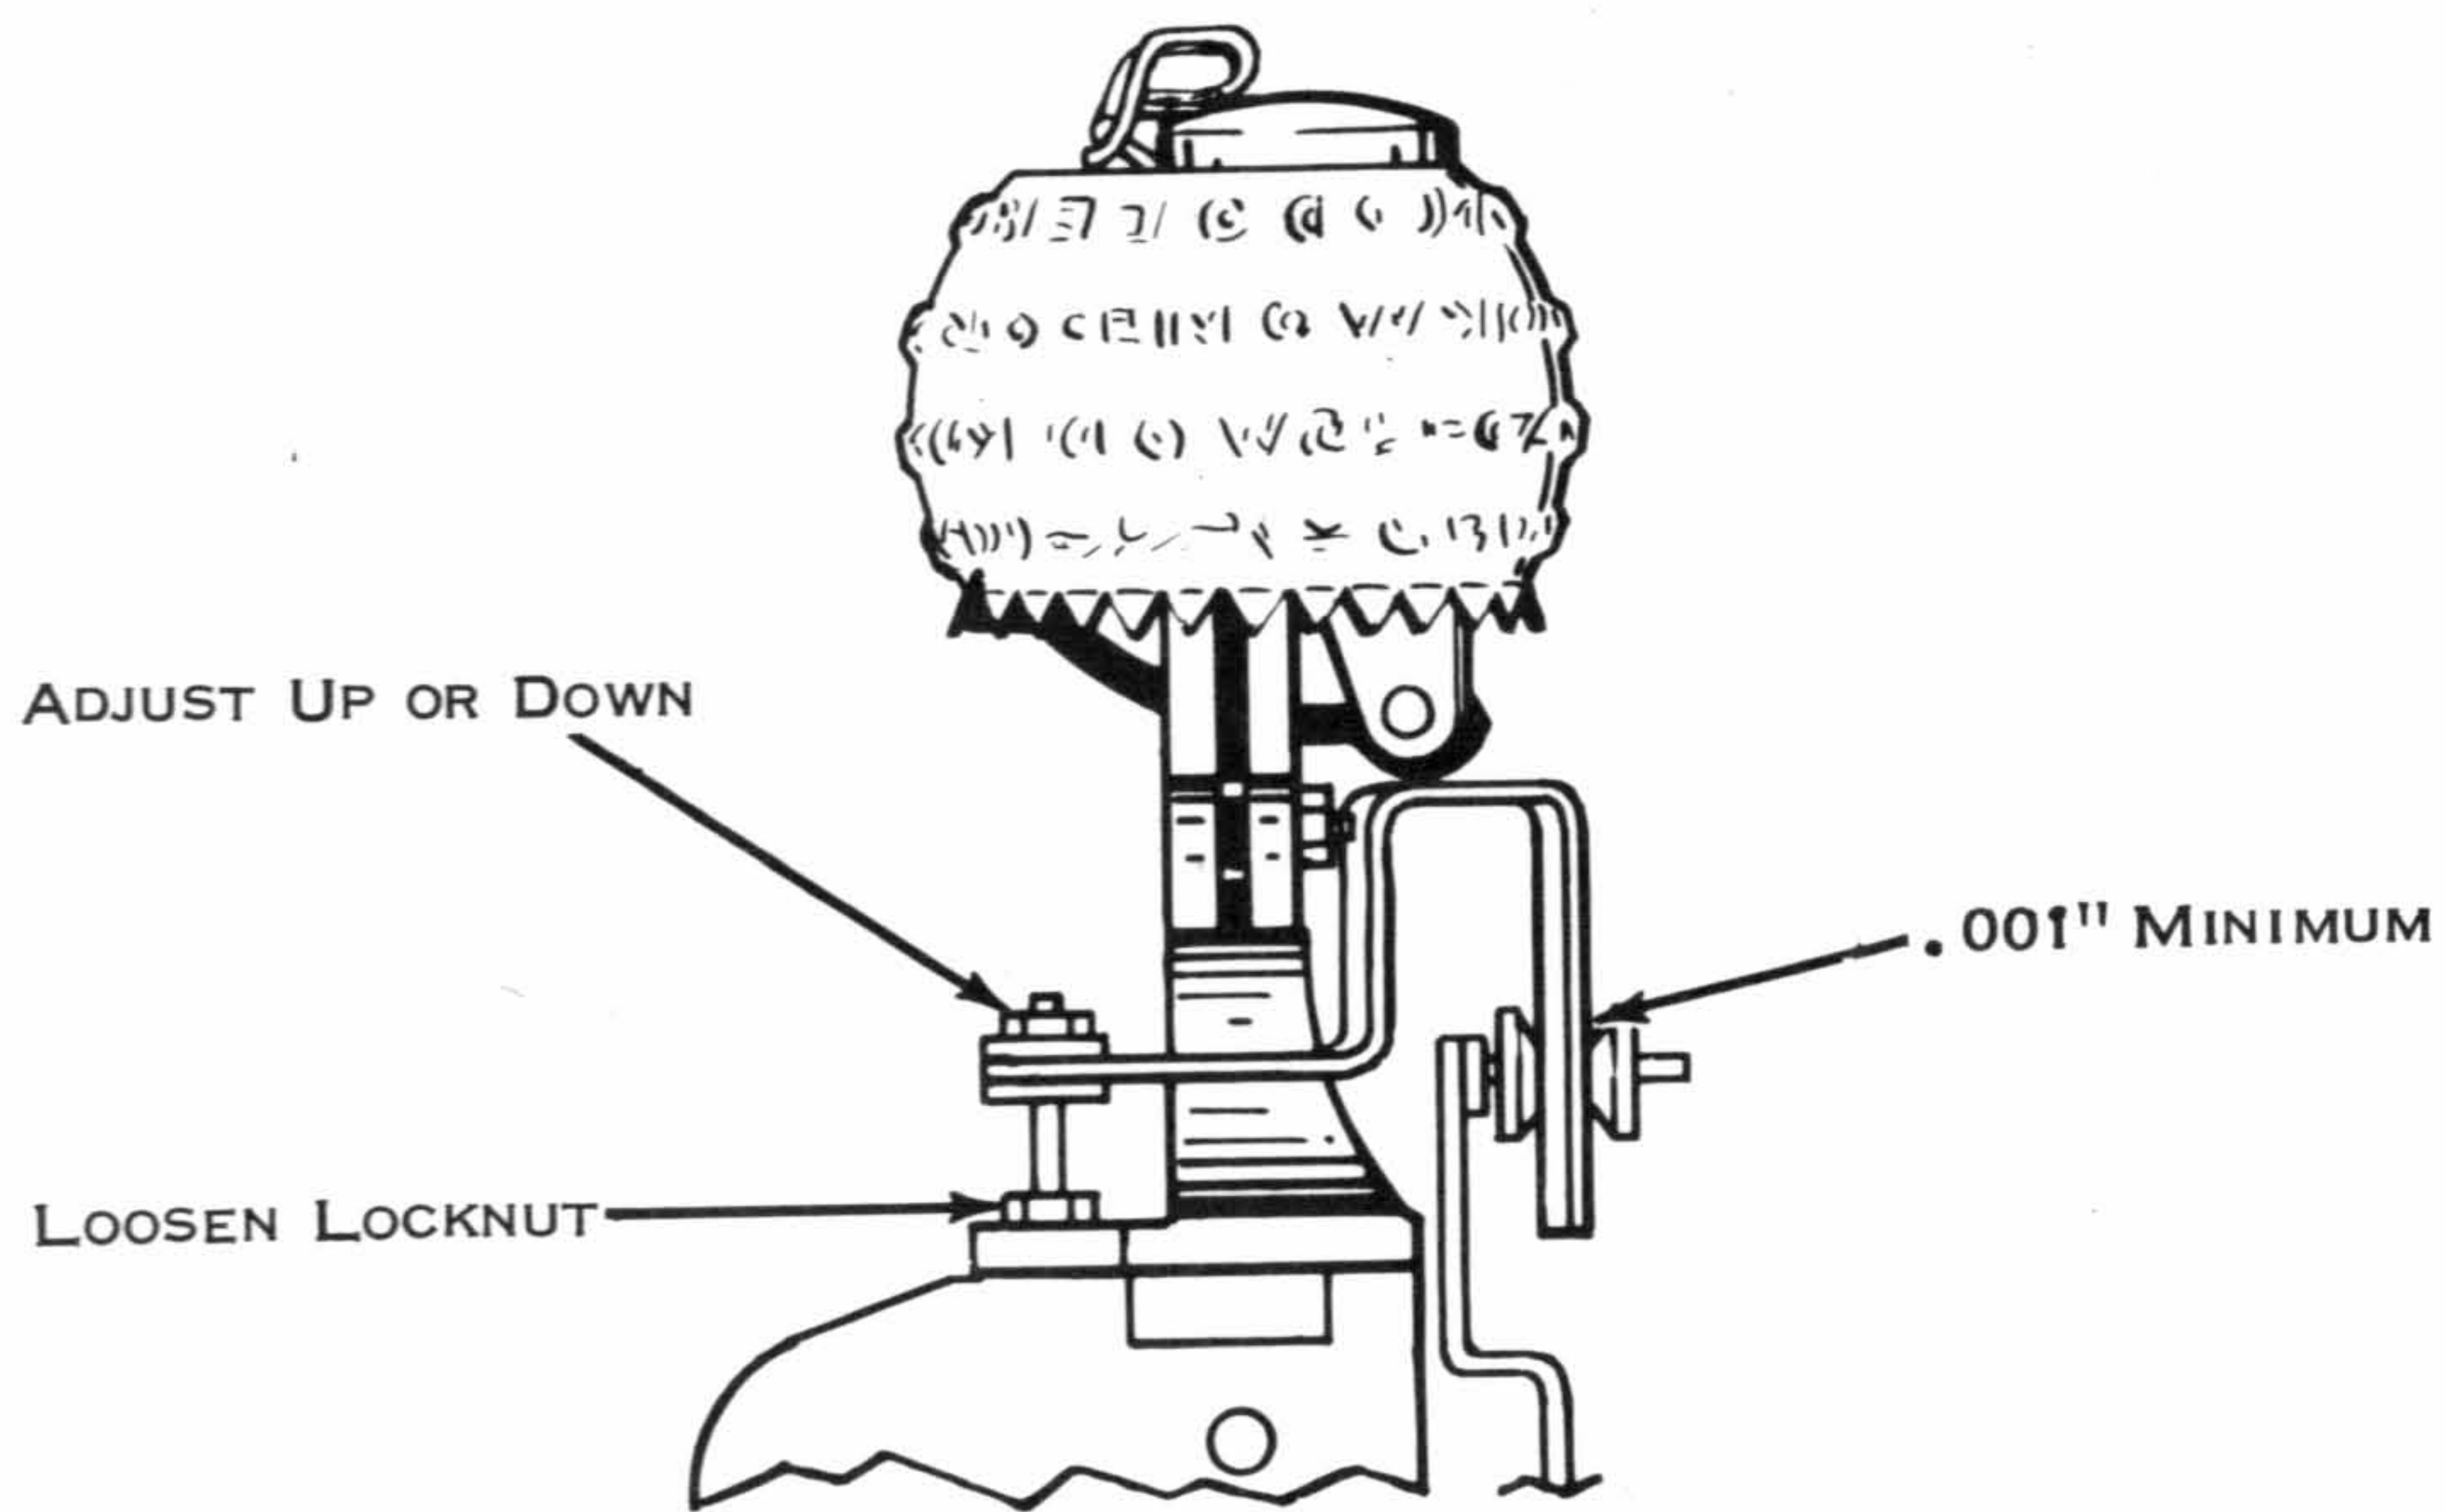

Figure 69. Detent Lever Support
11. Detent Lever Support, Gearless Tilt (Fig. 69) - Loosen locknut and adjust bristo screw up or down so that a .001" minimum clearance exists between the detent cam follower and the detent lever in all tilt positions. NOTE: Adjusting the screw down will reduce the clearance.